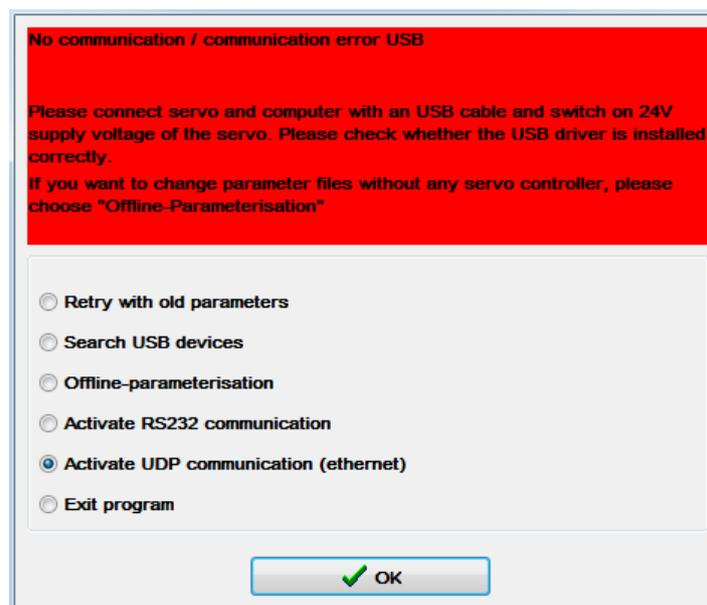

Figure 11: Selection of the type of communication with the Afag SE-Commander
2. Start the Afag SE-Commander and select the option **Activate UDP communication (Ethernet)**. Then, click OK to confirm (see *Figure 11*)